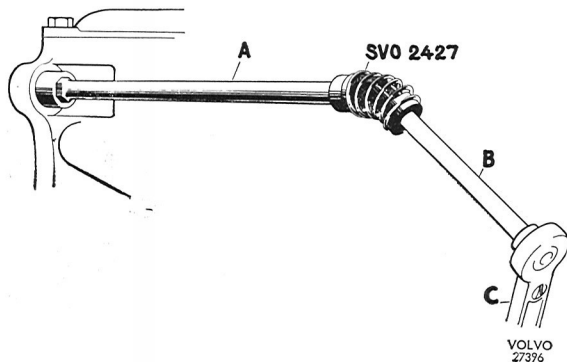

Fig. 4-26. Removal of transmission hose
5. Slacken the right upper and left lower transmission bolt with spanner 2487, flexible joint 2427, the extension with 3/8" drive and ratchet handle, see Fig. 4-26.